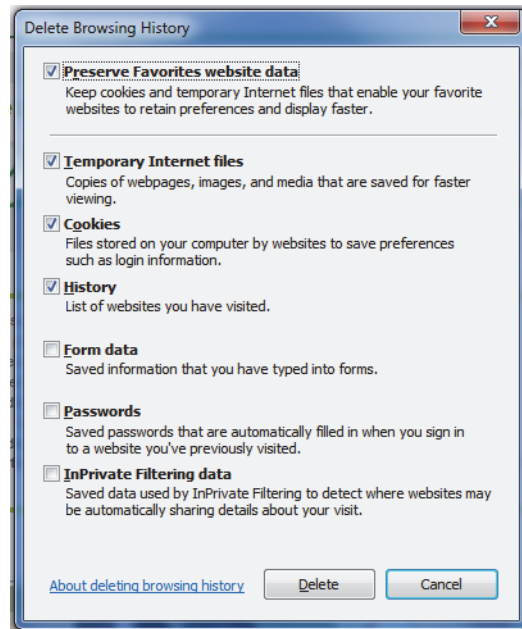
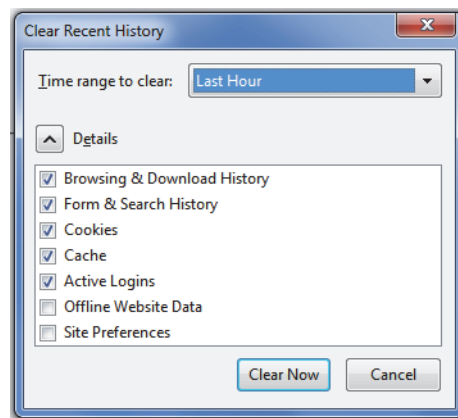

Figure 3-6 Internet Explorer Delete Browsing History
Figure 3-7 Firefox Clear Recent History
2. In the dialog box that opens (varies for each web browser), select an option to clear temporary Internet files or “cache”. See examples in Figure 3-6 and Figure 3-7 on page 3-45.